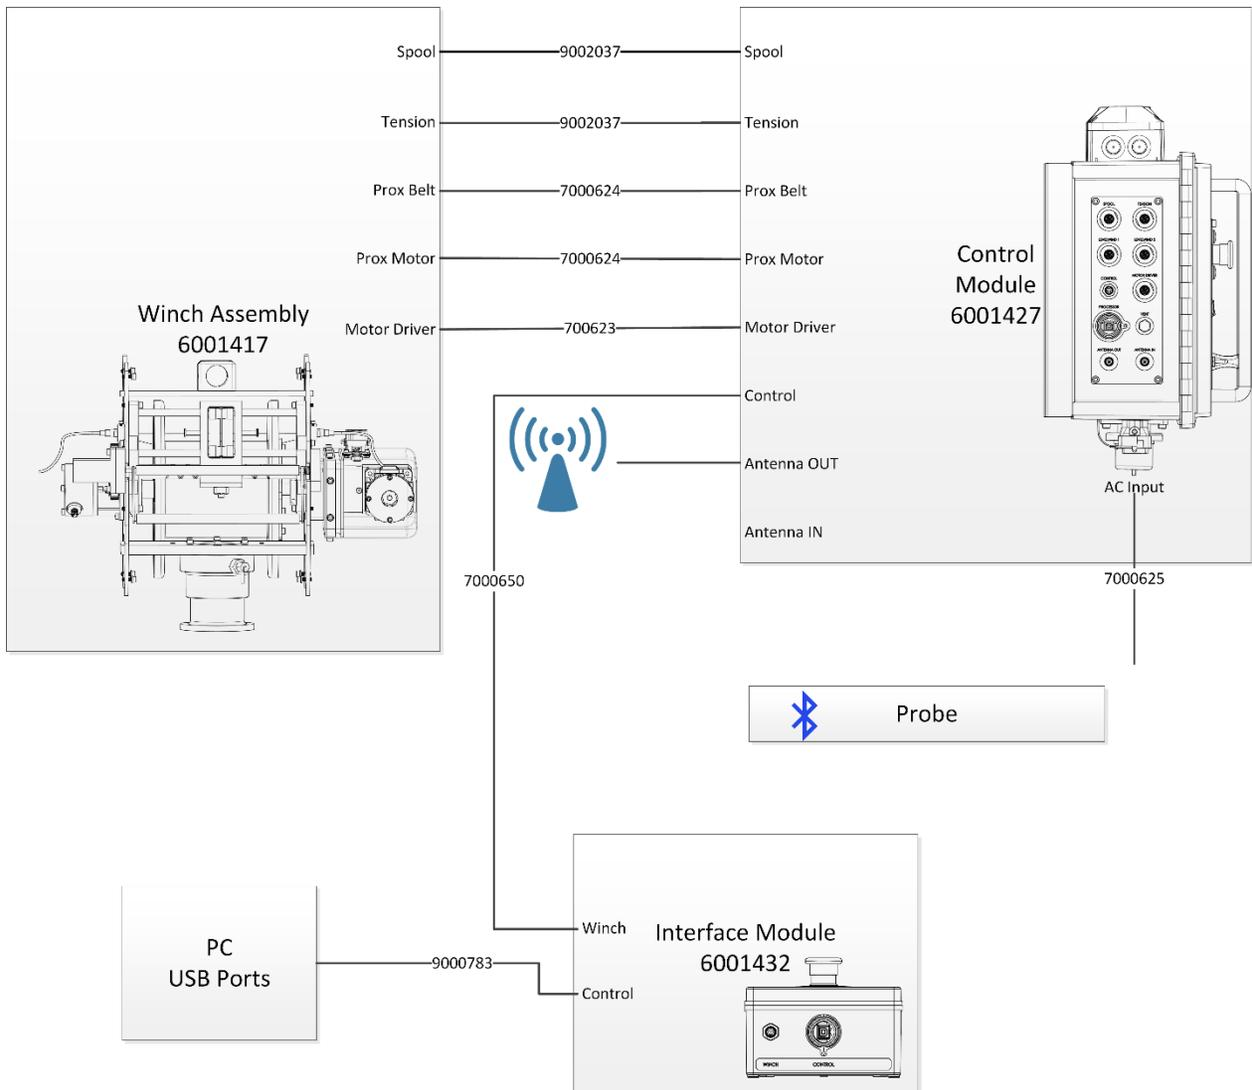
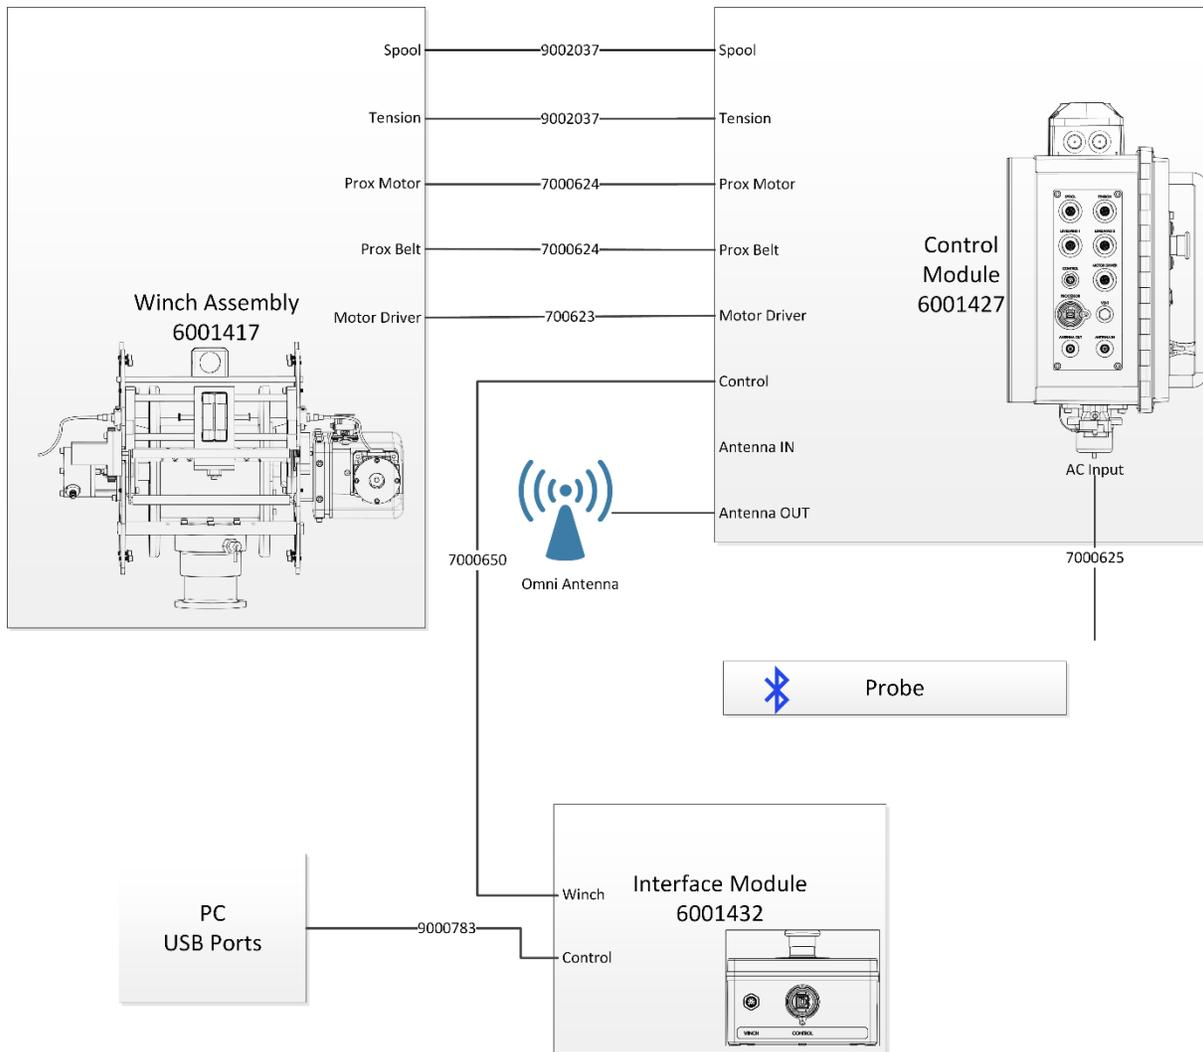

Figure 15. rapidCAST Cable Connections (Large Vessels)
Figure 16. rapidCAST Cable Connections (Small Vessels)
8. Connect the Antenna cable between the Control Module and Interface Module. Connect the Patch antenna to the Control Module (larger vessels use Figure 15). Alternately, you can connect the Omni antenna directly to the Interface Module and omit using the 9002211 cable (smaller vessels use Figure 16).
Omni Antenna – Use this antenna when the distance between the Interface Module and Control Module is less than 10 meters. See Figure 16 for cable connections.
Patch Antenna – Use this antenna when the distance between the Interface Module and Control Module is over 10 meters. See Figure 15 for cable connections.